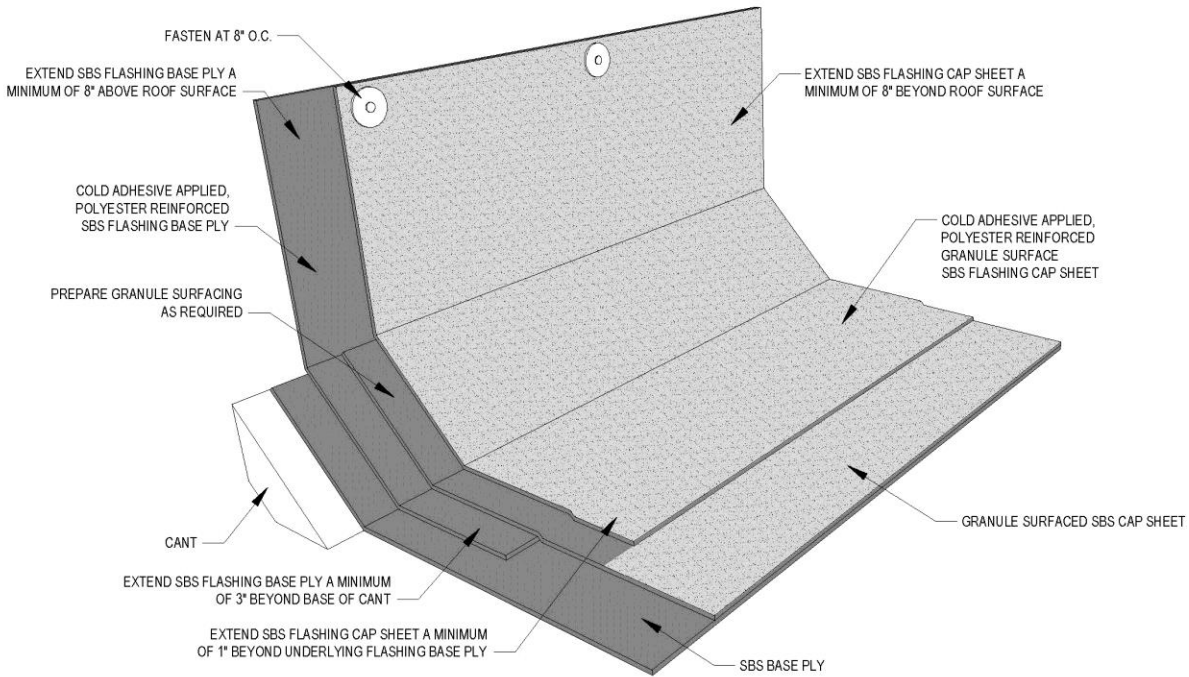

Figure 3.2.2a Fully Adhered, Cold Adhesive-Applied Wall/Curb Flashing on Granule Surfaced Cap Sheet
- Install the flashing cap sheet to ensure a minimum two (2) ply flashing system is present at all roof terminations, transitions and penetrations. Refer to Figures 3.2.2a through 3.2.1b and 3.2.2i through 3.2.2l.